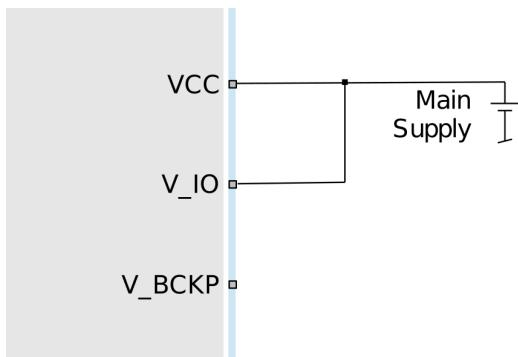

Figure 11: VCC and V_IO connected to the main supply. No external power supply at V_BCKP.
Power supply at VCC and V_IO must be present for normal operation. These two pins must be connected together (see Figure 11).
- ☞ If the HW backup mode is not used, leave the V_BCKP pin open (see Figure 11).